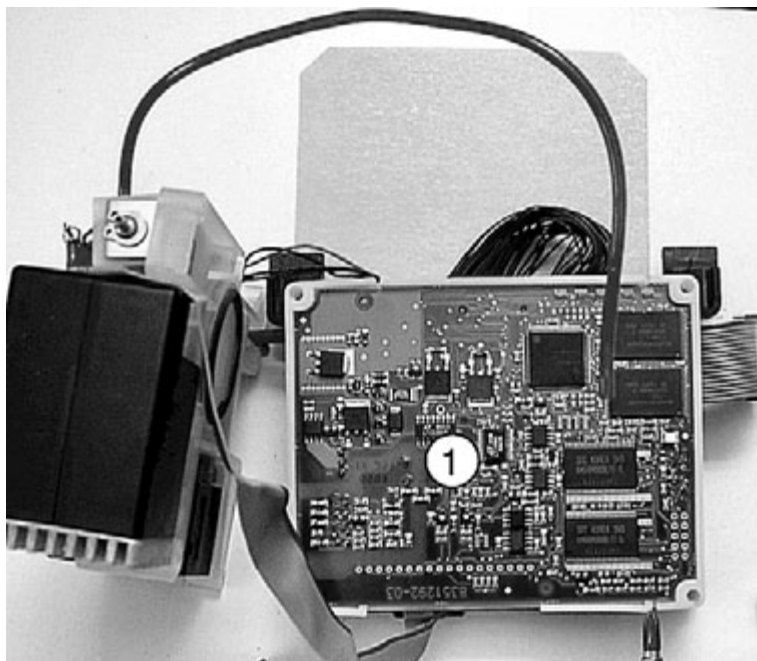

Fig. 9 ILCA module, MOPS PCB
- Remove the MOPS PCB (Fig. 9/1).